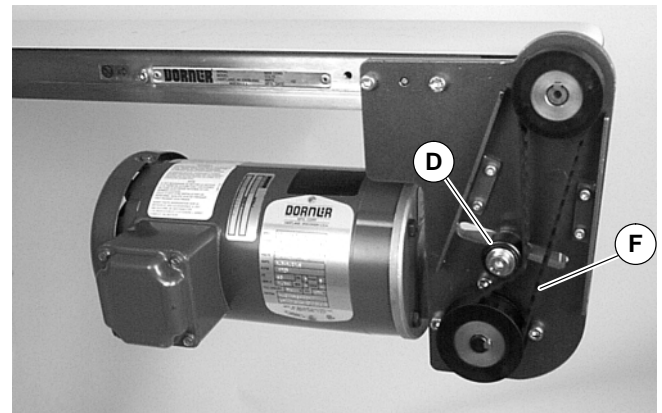
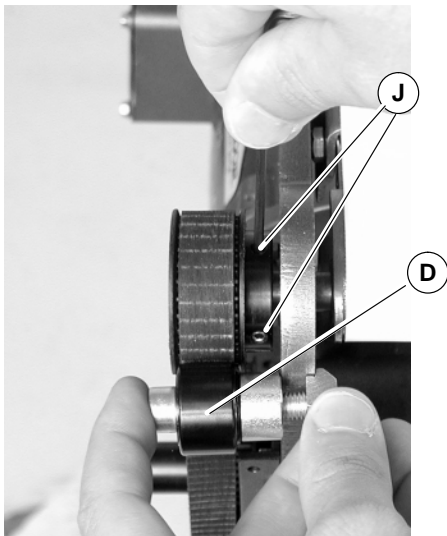

Figure 3
Figure 5
2. Loosen tensioner (D of Figure 3).
3. Remove timing belt (F of Figure 3).
5. Remove timing belt tensioner (D of Figure 3). Place the tensioner (D of Figure 5) next to the driven pulley (H). Ensure the flanges of the driven pulley are aligned with the cam bearing. Tighten driven pulley set screws (J). This will allow for proper belt alignment while conveyor is in use.